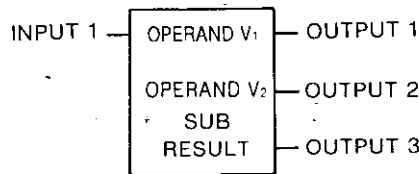

Fig. 5.31 SUB General Form
- Fig. 5.31 shows the form of subtraction (SUB).